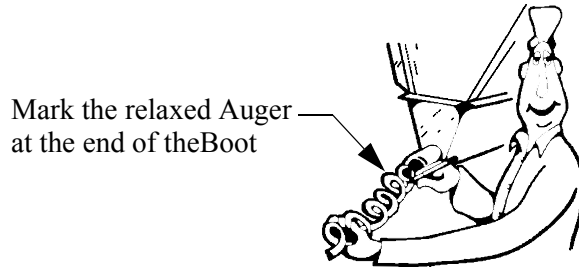

Figure 51. Measure the Auger from the relaxed
10. Pull the auger at the boot end until it begins stretching. Then let it relax. In the *relaxed* position, mark the auger at the end of the boot. See **Figure 51.**